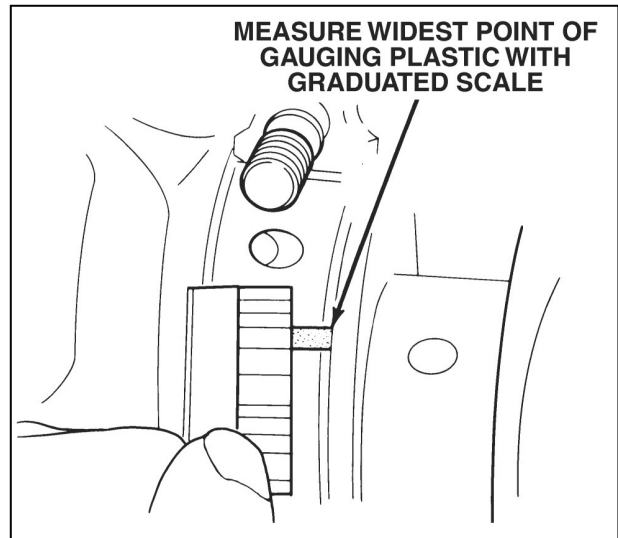

Figure 12-63 Measuring Gauging Plastic
- b. On the edge of the gauging plastic envelope there is a graduated scale. Without removing the gauging plastic, measure its compressed width (at the widest point) with the graduations on the gauging plastic envelope (figure 12-63).